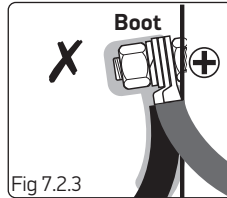

Fig 7.2.3
- ▶ Terminal or motor is damaged. Contact Lewmar Limited (Fig 7.2.3).